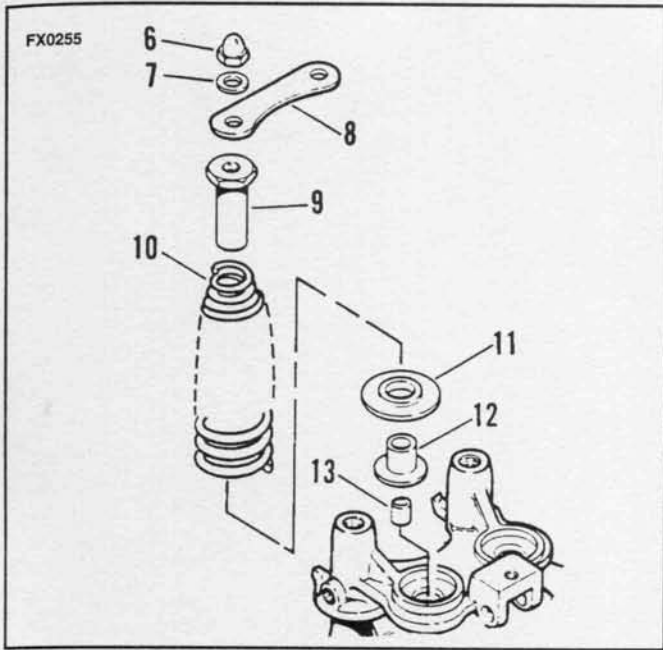
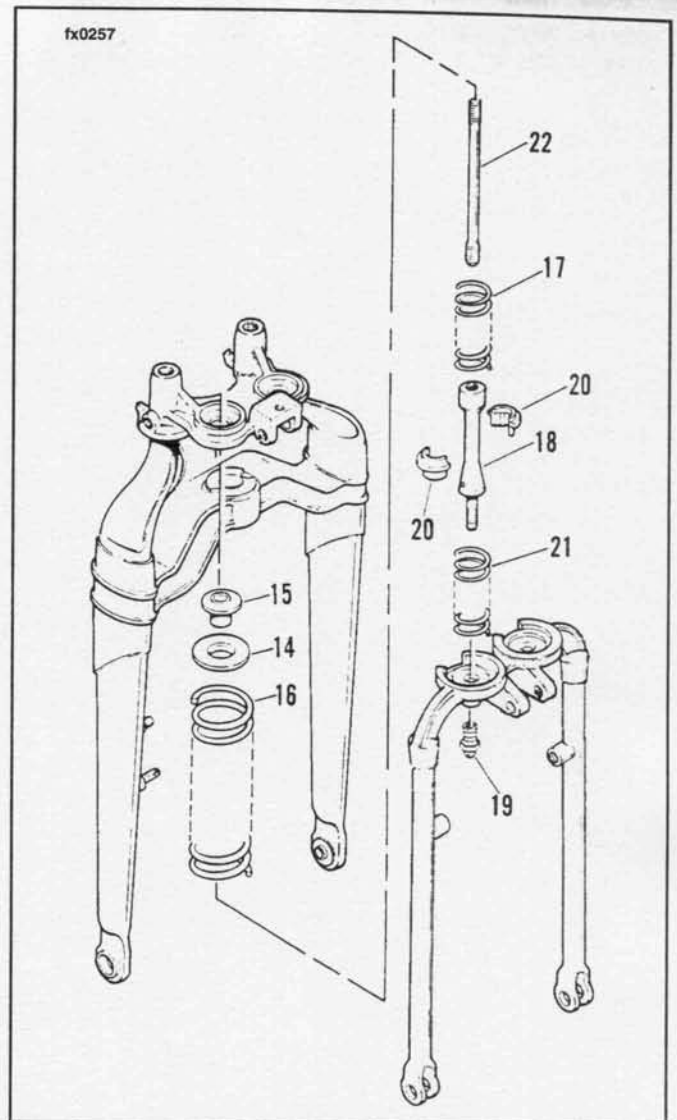
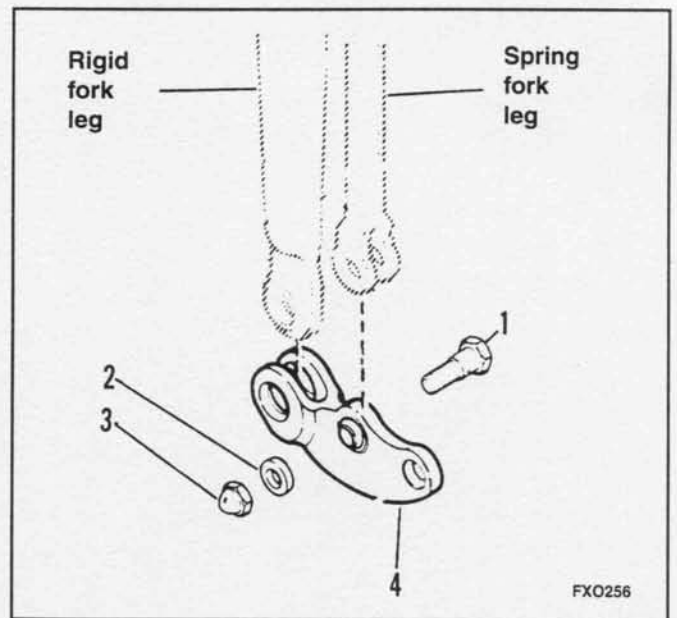
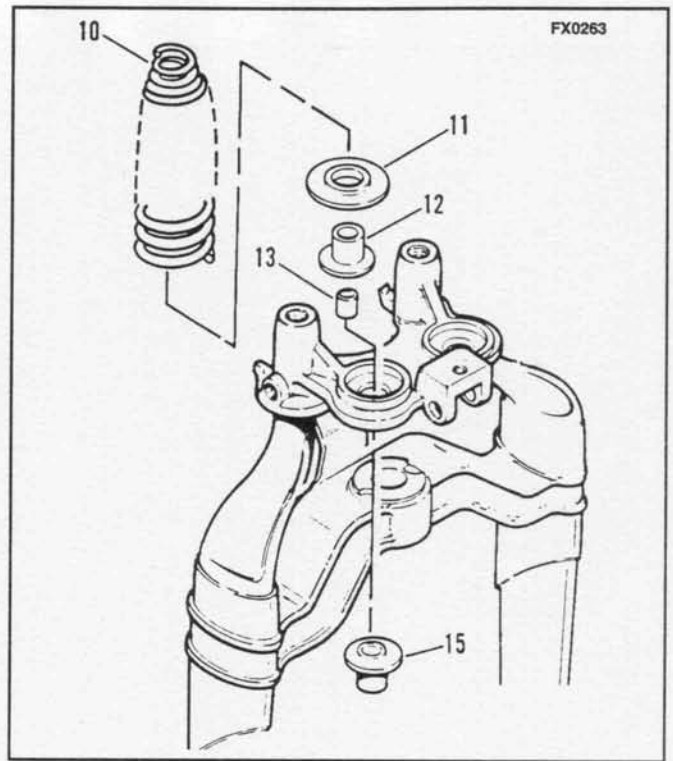

Figure 2-69. Rebound Spring Assembly
Figure 2-70. Compression Spring Assembly
Figure 2-71. Rocker Assembly
Figure 2-72. Bushing and Lower Travel Bumpers
6. See Figure 2-69. Remove acorn nuts (6), washers (7) and spring bridge (8).
7. Remove upper spring restraints (9).
8. Remove upper (rebound) springs (10).
9. Remove rebound spring cups (11).
10. Remove upper rubber travel bumpers (12).
11. Remove bushings (13).
12. See Figure 2-71. Remove thick rocker head pivot studs (1), thick washers (2) and acorn nuts (3) (FLSTS hex nuts) from rockers (4).
15. See Figure 2-70. Remove compression spring cups (14) and lower rubber travel bumpers (15). Remove outer compression springs (16).
16. Remove upper, inner compression springs (17).
17. Insert a # 2 Phillips head screwdriver in the cross-hole at the bottom of the lower spring rod (18) and loosen long acorn nuts (19). Remove Phillips head screwdriver. Remove the long acorn nuts (19) and spring rod assemblies.
1. See Figure 2-70. Place spring seats (20) on lower spring rod (18).
2. Place lower inside compression spring (21) over lower spring rod and spring seats.
3. Position spring rods assembly in spring fork bracket (B).
4. Install long acorn nut (19).
5. Use a #2 Phillips head screwdriver in the cross-hole at the bottom of the lower spring rod (18) and tighten long acorn nut to 20-25 ft-lbs (27-34 Nm).
6. Place upper inside compression spring (17) on spring seats.
7. Place outside compression spring (16) over the inside compression springs.
8. Install compression spring cup (14) and lower rubber travel bumpers (15).
12. See Figure 2-71. Place spring fork lower end in position in rocker (4).
13. Install thick head pivot stud (1) with thick washer (2) and acorn nut (3) (FLSTS hex nut on inboard side). Tighten nut to 45-50 ft-lbs (61-68 Nm).
15. See Figure 2-72. Oil bushing (13) and place on spring rod. Slide bushing down until it bottoms in lower rubber travel bumpers (15).
16. Install upper rubber travel bumpers (12) over spring rod and bushing.
17. Install rebound spring cup (11).
18. Install rebound spring (10).